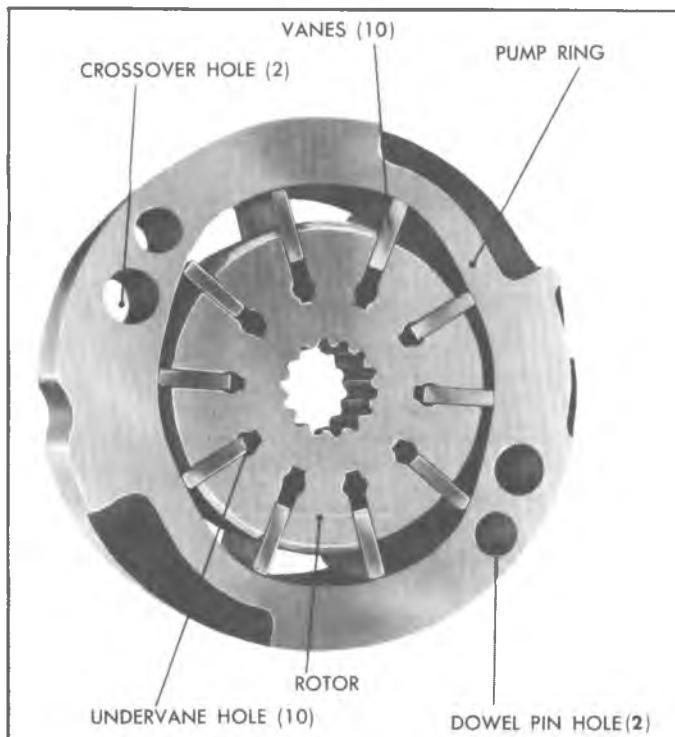

Fig. 23—Pump Components
The thrust plate (Fig. 23) is located on the inner face of the housing by two dowel pins. This plate has four central blind cavities for undervane oil pressure. The two outer blind cavities direct discharge oil through the two cross-over holes in the pump ring (Fig. 23), through the pressure plate, and into cavity 1 (Figs. 25, 26 and 27). The two outside indentations in the thrust plate are for intake of the oil from the suction part of the pump.
The pump ring (Fig. 23) is a plate having the mating surfaces ground flat and parallel. The center hole is a two lobed cam in which the rotor and vanes operate. The ring is placed next to the thrust plate, and located with the same dowel pins.
The drive shaft is fitted with a pulley and is belt driven from the crankshaft. The rotor is loosely splined to the drive shaft and secured with a retaining ring. It is located centrally within the ring and between the thrust and pressure plates. The ten vanes are mounted in radial slots in the rotor (Fig. 23).
the inner cam surface of the pump ring, moving outward and inward twice during each revolution. This results in a complete pumping cycle every 180 degrees of rotation (Fig. 23). Oil is moved in the spaces between the vanes. As the vane tips move outward, oil is sucked into the intervane spaces through four suction ports in the pressure and thrust plates. The pressure of the oil is raised, and the oil is discharged from the pump ring, as the vane tips move inward. High pressure oil discharges into cavity 1 (Figs. 25, 26 and 27), through two open ports in the pressure plate, and through two blind ports in the thrust plate, which are connected to cavity 1 by the cross-over holes in the ring. A portion of this oil is circulated through the central port system in the pressure plate, forcing the vanes to follow the cam surface of the ring. The ring-rotor leakage oil (12) is used for bushing lubrication and then bled to the reservoir.